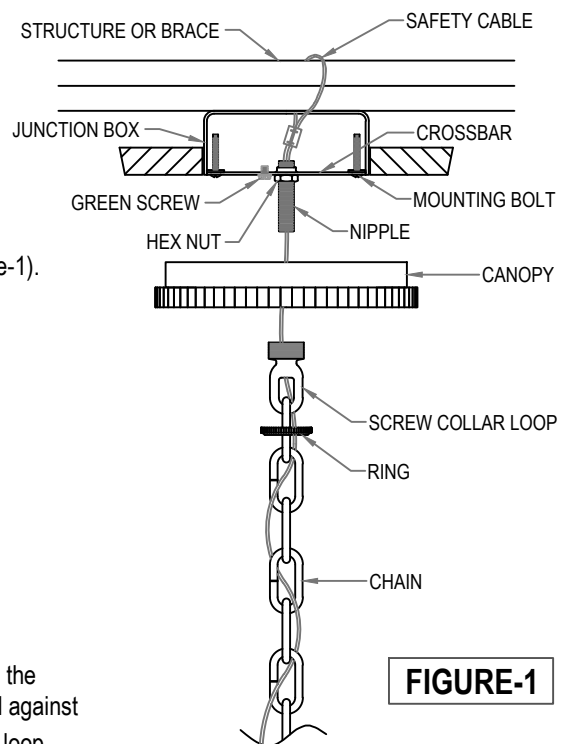

FIGURE-1
1. Attach the **SAFETY CABLE** to the building structure or brace (See figure-1).
- Attach the **SAFETY CABLE** to the fixture (See figure-1).